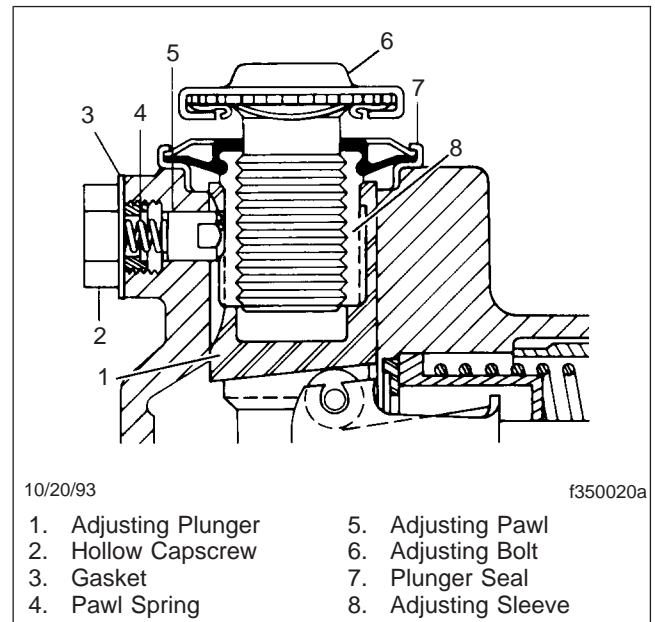

Fig. 7, Wedge Brake Adjusting Components
2. Inspect the plunger seals. See **Fig. 7**. If seals are cut, torn, or otherwise ineffective, disassemble and overhaul the brake actuating components.